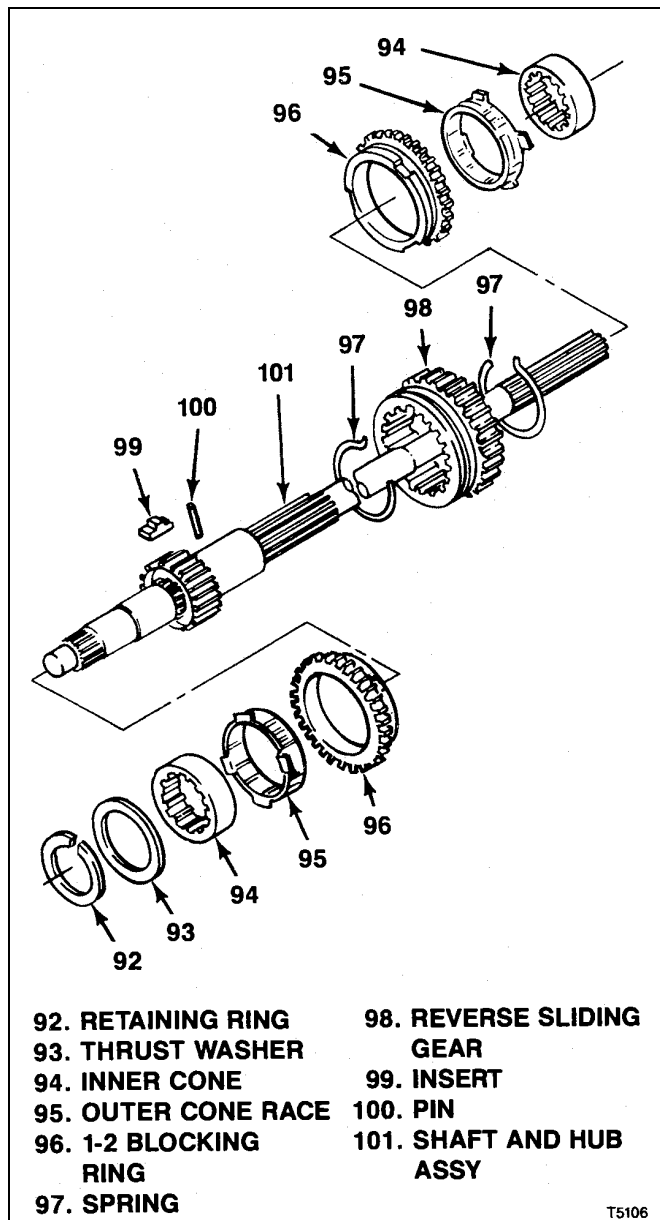
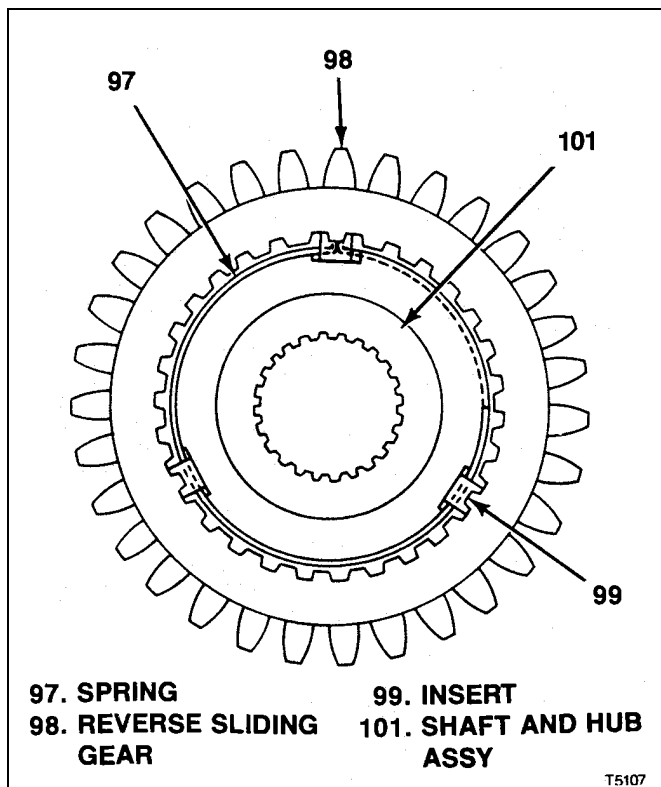

Figure 6-7. T5 WC Output Shaft Assembly
Figure 6-8. Reverse Sliding Gear Assembled
6-10. ASSEMBLY OF T5 WC OUTPUT SHAFT ASSEMBLY. On work bench, assemble output shaft assembly as follows (see figure 6-7):
- a. Install pin (100) in shaft and hub assembly (101).
- b. Be sure to assemble reverse sliding gear (98) and hub on shaft and hub (see assembly (101), aligning marks made at disassembly figure 6-8) so that clutch teeth and part faces are assembled exactly as they were originally.
- c. Start reverse sliding gear (98) onto hub on shaft and hub assembly (101) to a position that will just permit installation of inserts (99). Install inserts (99) then engage clutch teeth fully.
- d. Hook one end of one spring (97) under one of the inserts (99) and wrap around inside, under all three inserts. Hook other end of spring under insert (see figure 6-8).
- e. At other side of assembly hook remaining spring (97) under opposite end and side of same insert (99) where step d was started by wrap around inside in opposite direction from step d, under all three plates. Hook other end of spring under insert (99) (see figure 6-8).
- f. Position reverse sliding gear (98) and inserts (99) so that all inserts snap into neutral position.
- g. At each end of shaft and hub assembly (101) install 1-2 blocking ring (96), outer cone race (95) and inner cone (94), noting the correct position and location of these parts as shown in figure 6-7. Be sure to align blocking ring notches with inserts (99).
- h. At second speed end of shaft and hub assembly (101), install thrust washer (93) and retaining ring (92).